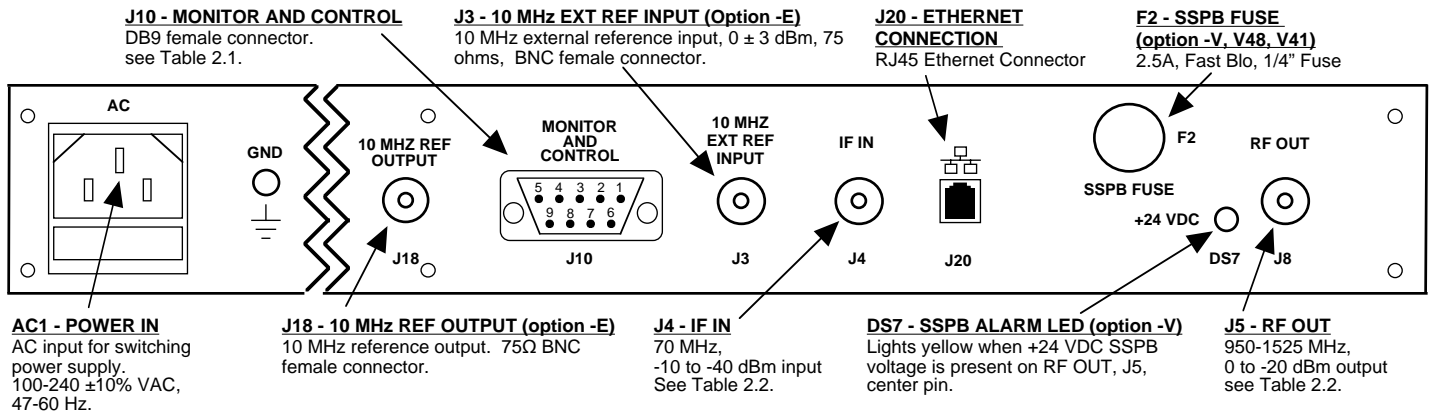

FIGURE 2.1 2015-03 Rear Panel I/O's
2.2 Rear Panel Input/Output Signals - Figure 2.1 shows the input and output connectors on the rear panel.
1. Connect a -40 dBm to -10 dBm signal to IF In, J4 (Figure 2.1)
8. Options -V, -V41, -V48 only - To insert SSPB Voltage, +24, +V48 VDC on the RF center pin install 2.5A fast blo fuse in F2 and check that DS7 lights yellow (Figure 2.1)